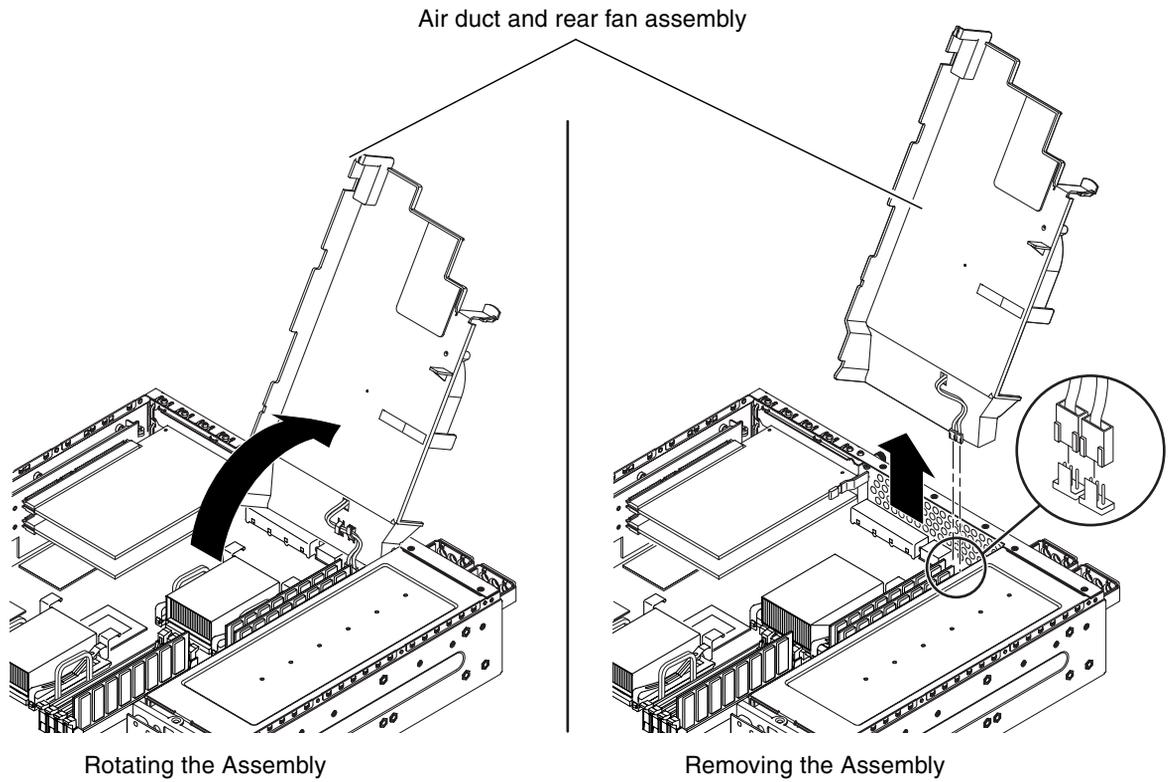

FIGURE 5-1 Removing/Rotating the Air Duct and Rear Fan Assembly
- 5. Determine if you want to gain access to the components beneath the air duct and rear fan assembly, or if you want to completely remove the assembly from the server (refer to FIGURE 5-1 for both sets of instructions).**
2. Plug in the two lower cables from the system board (FIGURE 5-1).